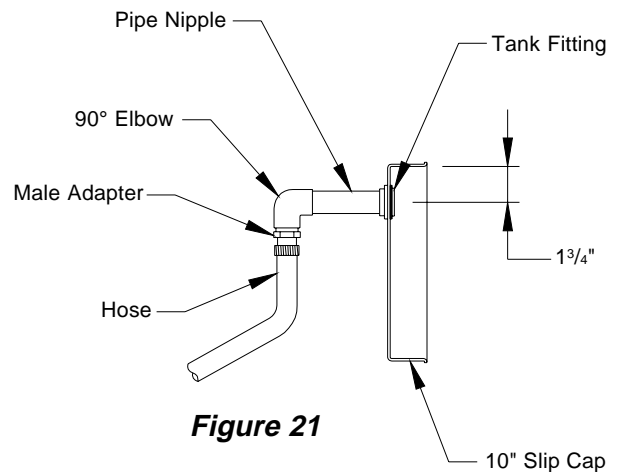

Figure 21
- 4) The second option is recommended for installations requiring overflow to be plumbed away from the system to a drain. This installation will require additional parts (provided by others). These parts should be installed in a similar fashion to **Figure 21.** Using a 1" overflow centered $1\frac{3}{4}$ " from the top of the slip cap. Note that this overflow installation should slope directly down and away from the system.